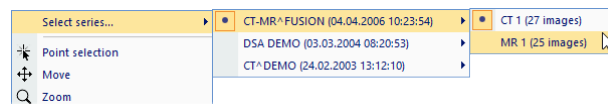

Figure 130 – Series selection using the view context menu
2. Right-click to display its context menu (see Figure 130).